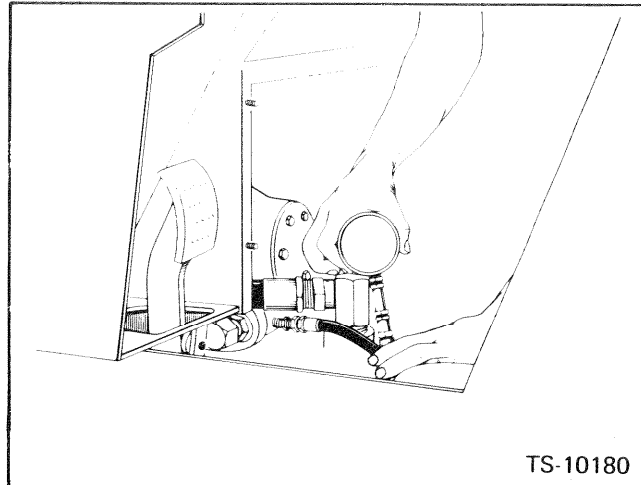

Fig. 8-1 Check Converter OUT Pressure
2. Install a gauge at the converter OUT pressure port located below the sender unit on the rear of the converter. Fig. 8-1.